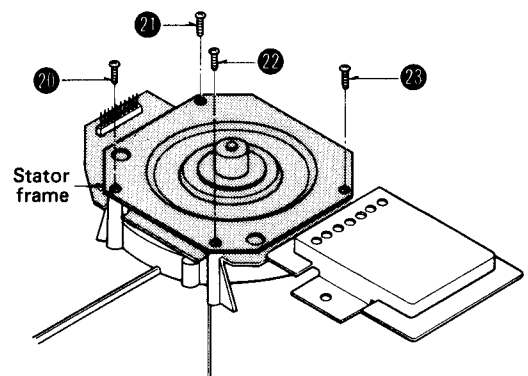

Fig. 4
2. Remove the stator frame setscrews ⑲ ~ ⑳. Then the stator frame can be removed. (Fig. 4)